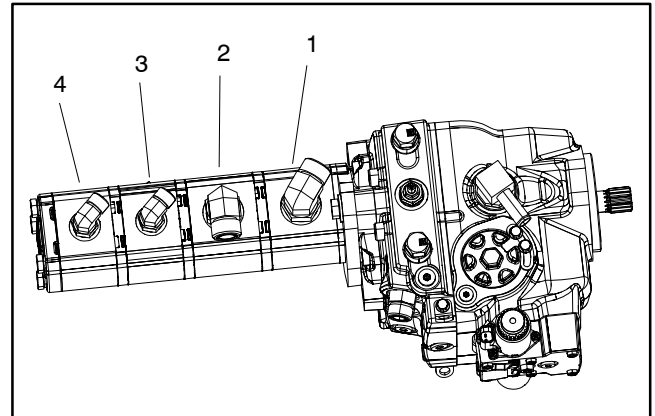

Figure 57
The gear pump flow test should be performed to make sure that the mow, steering, lift/lower, cooling fan and traction charge circuits have adequate hydraulic flow. Gear pump sections are illustrated in Figure 57. The first gear pump section provides hydraulic flow for cutting decks 2, 3 and 5 (also deck 7 on the GM 4700-D). The second gear pump section provides hydraulic flow for cutting decks 1 and 4 (also deck 6 on the GM 4700-D). The third gear pump section provides hydraulic flow for the steering, lift/lower and traction charge circuits. The fourth gear pump section provides hydraulic flow for the engine cooling fan circuit.
1. Make sure hydraulic oil is at normal operating temperature by operating the machine for approximately ten (10) minutes. Make sure the hydraulic reservoir is full.
4. Determine which gear pump section is to be tested. Disconnect hydraulic hose from fitting in gear pump section that is to be tested (Fig. 57).